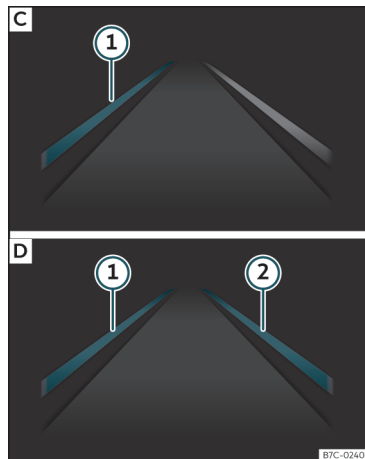

Fig. 224 On the instrument panel display: Indication on the Lane Assist system display (example 2).
- **Fig. 224 C:** The system is operational, the highlighted line ① indicates that there was a risk of involuntarily crossing the lane line and that the steering is being adjusted to correct the angle.
- **Fig. 224 D:** The two highlighted lines ① and ② light up simultaneously when both lane lines are recognised and the Lane Assist function is activated.